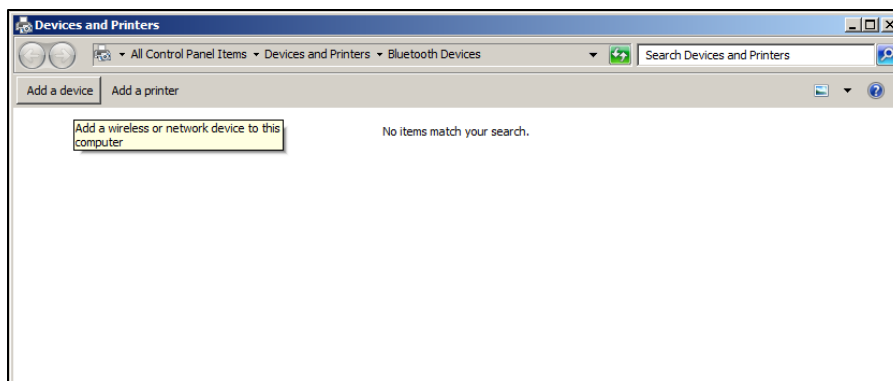

Figure 29: Select Add a device
2. Click **Add a device** (Figure 29).